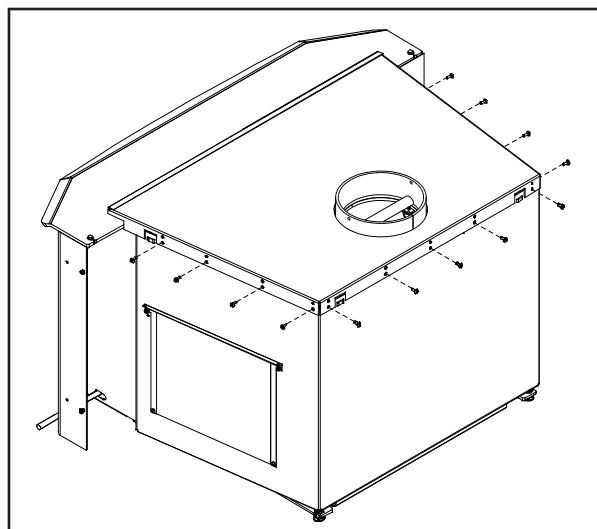

Figure 9: Removing Cabinet Top from Unit.
1. Remove the thirteen T-20 screws holding the cabinet top in place (refer to Figure 9).
3. Remove the Air Deflector (shown in Figure 9) by removing the two (2) T-20 screws.